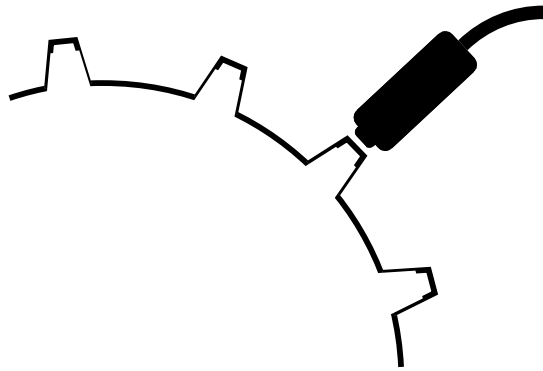
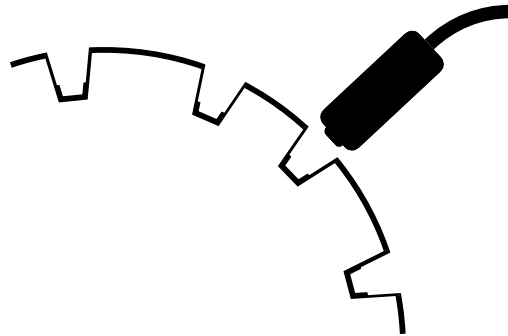
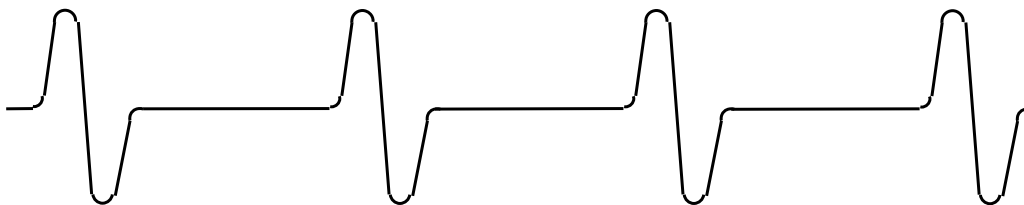
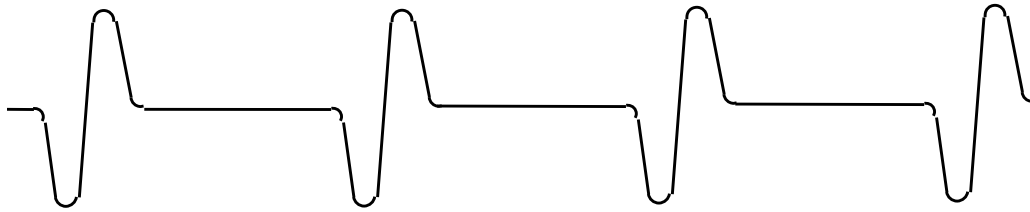

Figure 6. Positive tooth trigger wheel
Figure 7. Negative tooth trigger wheel
Figure 8. Correct signal polarity for VR input circuit
Figure 9. Incorrect signal polarity for VR input circuit
The AD Combo module provides two identical VR sensor inputs. A Variable Reluctance (VR) sensor input is a standard low cost automotive speed sensing input. It is an electro-magnetic sensing device containing a winding of wire around a permanent magnetic core. It relies on the movement of ferrous material (steel teeth) past the tip of the sensor to change the magnetic flux of the sensor. This creates a voltage pulse across the leads of the sensor's wire coil. Figures 8 and 9 below show a typical VR signal with respect to toothed wheels, as shown in Figures 6 and 7. The VR signal will go positive as a tooth approaches the sensor tip. The signal will then rapidly swing back through zero precisely at the center of the tooth. As the tooth moves away from the sensor tip the voltage will continue in the negative direction and then return to zero.
Each VR sensor input requires two connections. The AD Combo module pins labeled VR1 and VR2 are the positive sensor inputs. The negative sensor inputs must be connected to GND pins on the module. The polarity of the sensor connection to the module is critical. The leads of the sensor should be connected such that the positive input of the VR circuit sees the waveform shown in Figure 8. The waveform shown Figure 9 is incorrect, and the VR circuit will not properly respond to this waveform. The rapid zero crossing of the VR signal must be in the negative direction.
The polarity of the physical tooth or gap on the trigger wheel will contribute to the polarity of the voltage pulse from the sensor. Figure 6 demonstrates a positive physical tooth polarity and Figure 7 demonstrates a negative physical tooth polarity. Assuming the lead polarity of a sensor remained the same, one of the configurations would generate the waveform shown in Figure 8, while the other configuration would generate the waveform shown in Figure 9.